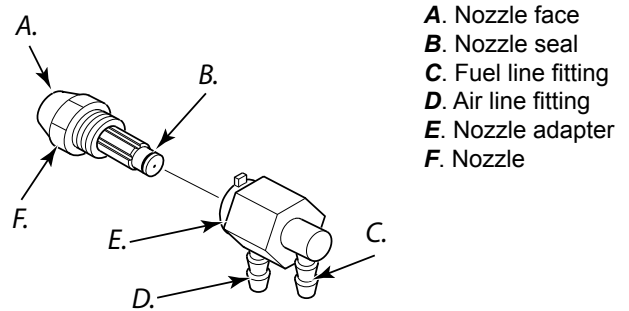

Figure 21 – Nozzle and nozzle adapter.
6. Carefully remove nozzle from the nozzle adapter using 5/8" socket wrench (see Figure 21).
9. Replace nozzle into nozzle adapter until nozzle seats. Tighten 1/3 turn more using 5/8" socket wrench 4.5 to 5.1 N-m (40 to 45 in-lbs). See Figure 21.